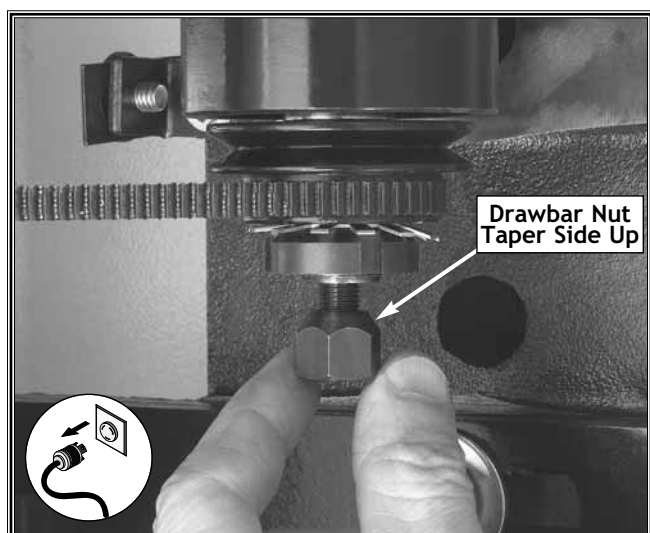

Figure 20. Threading drawbar nut onto drawbar.
6. Thread the tapered drawbar nut onto the end of the drawbar under the table, and make sure that the taper side of the nut is facing upward as shown in **Figure 20**.